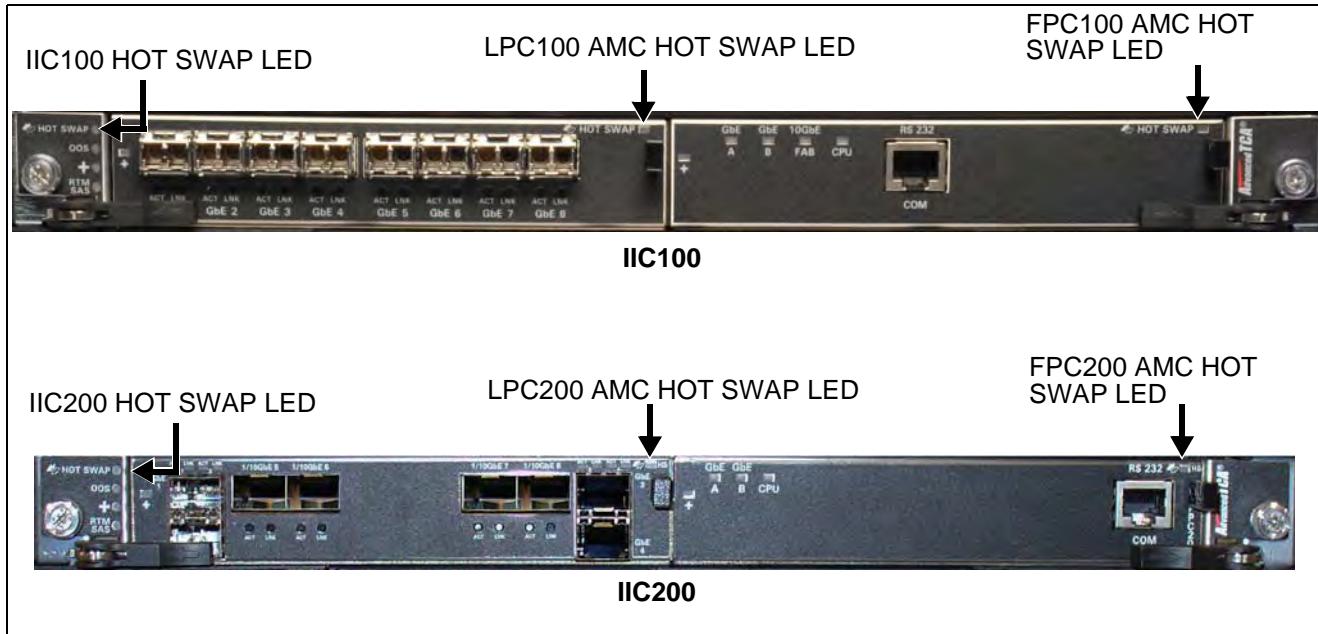

Figure C.24 - G10 IIC Hot Swap LEDs
3. Wait until the IIC Hot Swap LED is solid blue (**Figure C.24**). This indicates the card's OS has powered down completely.